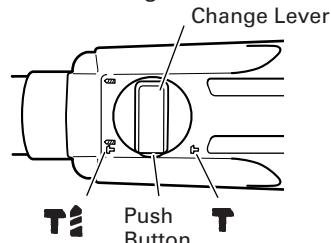

Fig. 12
- (1) Mount the bull point or cold chisel.
- (2) Press the push button and set the change lever to middle of **T** mark and **II** mark. (Fig. 12)